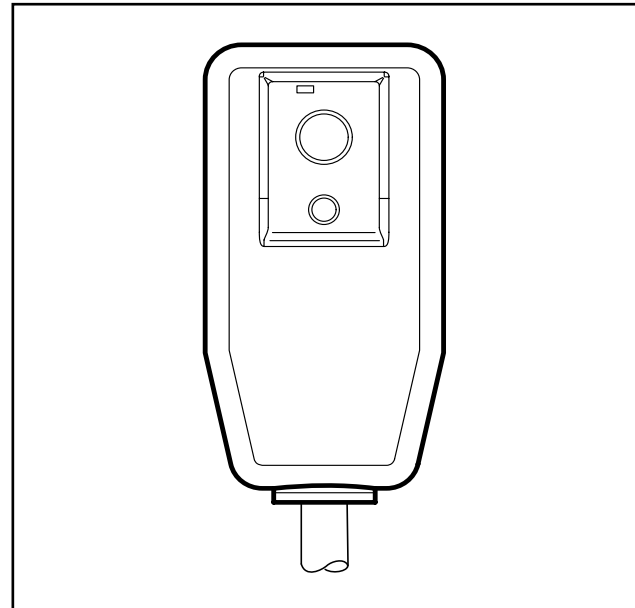

Figure 206 (LCDI Power Cord)
2. Press RESET (see Figure 206).